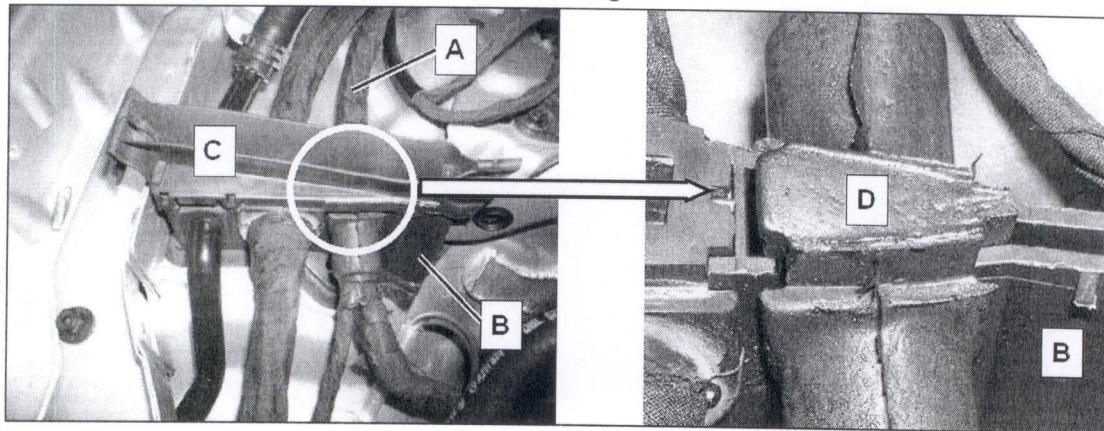

Figure 16
22. Remount the SBC wiring harness (A, Figure 16) in the wire harness guide (B):
- Remove wire harness guide cover (C) and remove SBC wiring harness with grommet (D) from harness guide (B).
- Reinstall top of wire harness guide (C, Figure 16).